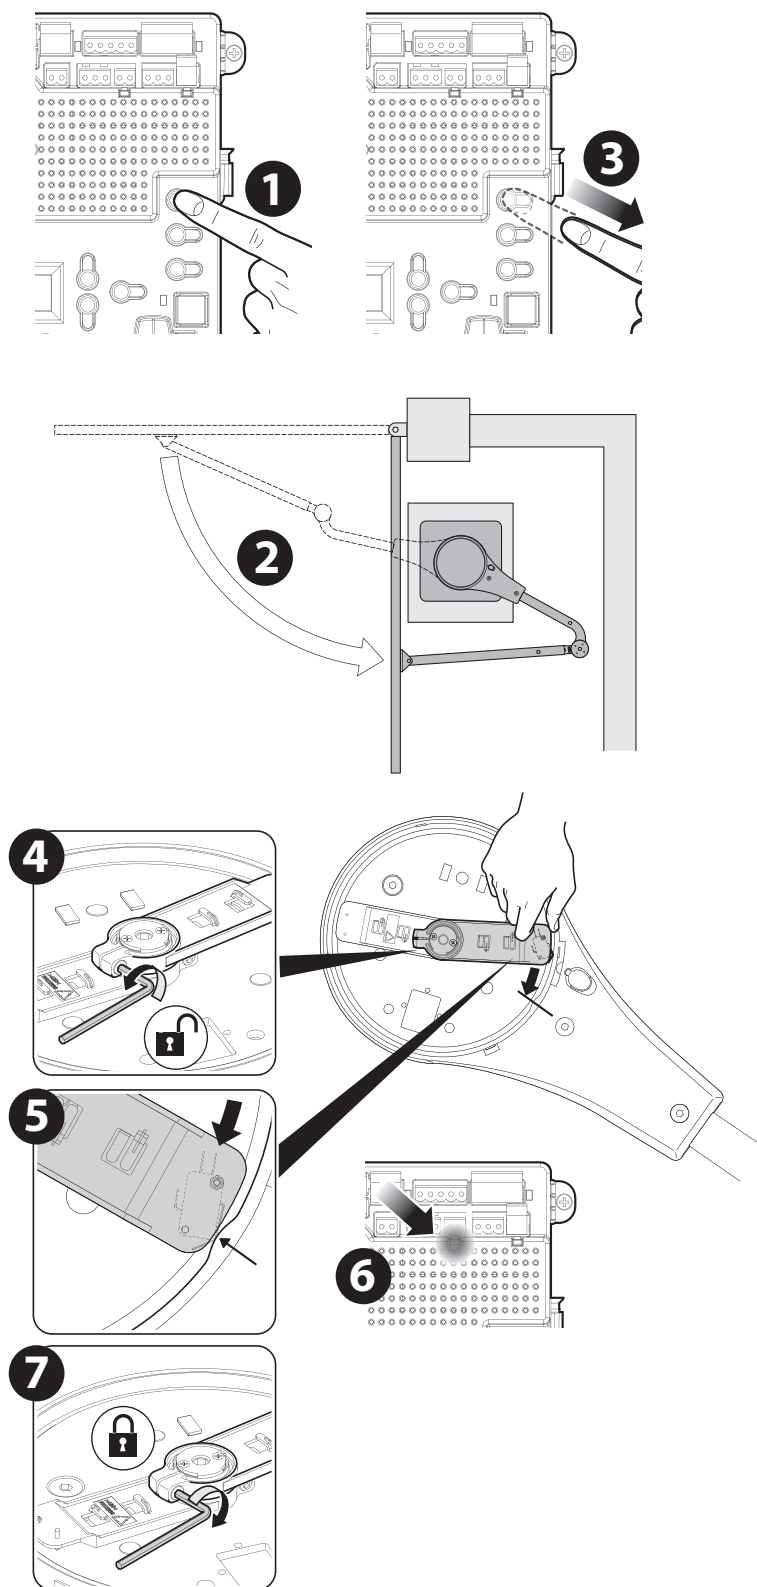

Figure 12
6. Using the OPEN button on the front of the Control Board, hold the button down until the gate reaches the fully intended open position (see figure 12 steps 1-2-3). Once the gate is in the full open position the OPEN limit switch must be set. Use an allen wrench to loosen the set screw that keeps the OPEN limit switch arm in place and adjust it until the GREEN light illuminates on the front of the control board (Figure 12 steps 4-5-6). When done, to hold the limit switch arm firmly in place tighten the set screw (Figure 12 step 7).